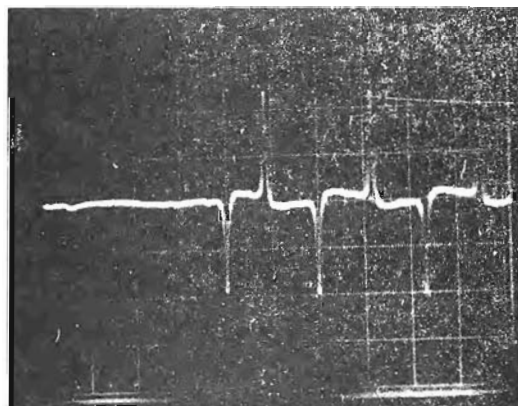

FIGURE 8 INDEX TIMING
- c. Observe the timing between the start of the sweep and the first data pulse. This should be  $200 \pm 100$  usec (Ref. Figure 8). If the timing is not within tolerance, continue with this procedure. If correct, proceed to step 3.4.9.